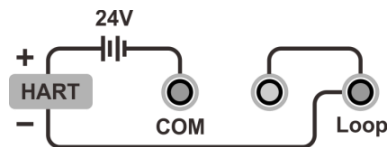

Figure 8 HART-External power and internal resistance
2) The connection method of external power supply and internal resistance is shown in Figure 8;